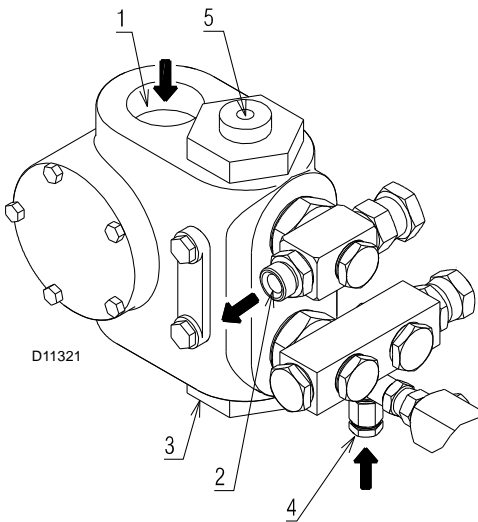

Fig. 21
Key (Fig. 21)
- In order for self-priming to take place, the screw 4) on the pump (Fig. 21) must be loosened to bleed off the air contained in the suction line.
If the pump has been drained, fill it with fuel through the opening on the vacuum gauge 4)(Fig. 21) prior to starting; otherwise, the pump will seize.